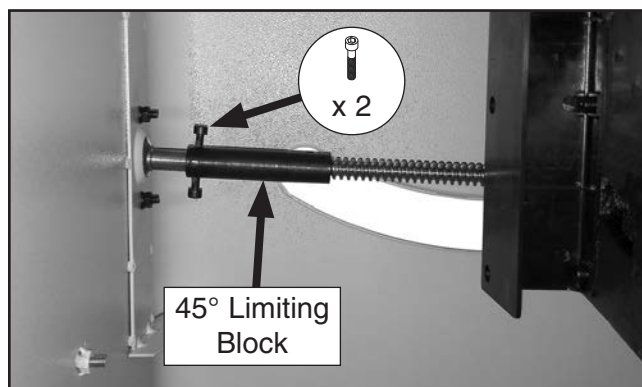

Figure 109. Location of 45° limiting block.
5. Loosen (2) M5-.8 x 10 cap screws in 45° limiting block (see **Figure 109**).